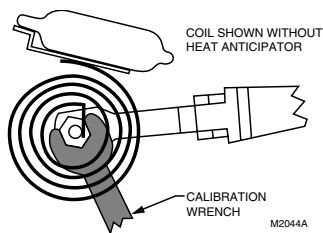

Fig. 13. Recalibration procedure.
2. Insert Honeywell part no. 104994A Calibration Wrench (order separately) onto the hex nut under the coil. See Fig. 13. Holding the setting lever so it does not move, turn the wrench clockwise  until the mercury rolls to the right end of the tube. Remove wrench and replace cover. To ensure accurate temperature control, do not touch or breathe on bimetal or thermometer.